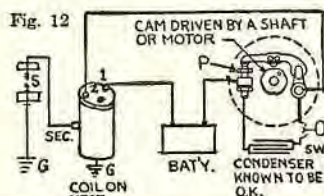
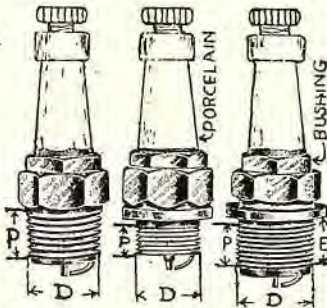

Fig. 12. Test of condenser with interrupter.
Fig. 13. Regular length of $\frac{1}{2}$ " metric, and $\frac{7}{8}$ " spark plugs
Where there are many coils and condensers to test, it is a good idea to rig up a contact breaker on the bench (Fig. 12), so that it can be driven at various speeds, and then to have a good condenser across its points which can be connected and disconnected by a switch (SW). Then when a coil is tested it can be connected with the contact breaker. If it has a condenser in the coil, disconnect the condenser on the contact breaker; then watch if it sparks at points (P). If it does, cut in the good condenser.
Ignition Coil Test (Fig. 13)
Condenser test (Fig. 13): Note that the condenser is in the coil. The object is to see if there is excessive sparking at the vibrator points (P). If so, it may be due to too high a voltage, or to pitted or improper adjustment of the vibrator. If arcing continues (after determining this), and is thread-like, whitish and snappy (see also under Fig. 12, page 230), it is then probably due to the condenser.
nection on the opposite side (R) of it from 1 (Fig. 13) thus cutting it out.
Different threads and different lengths of spark plugs are used, illustrated in Fig. 13.
Spark plugs are made with three standard threads (see Fig. 13): the $\frac{1}{2}$ " pipe thread; metric; and $\frac{7}{8}$ "-18 S.A.E.